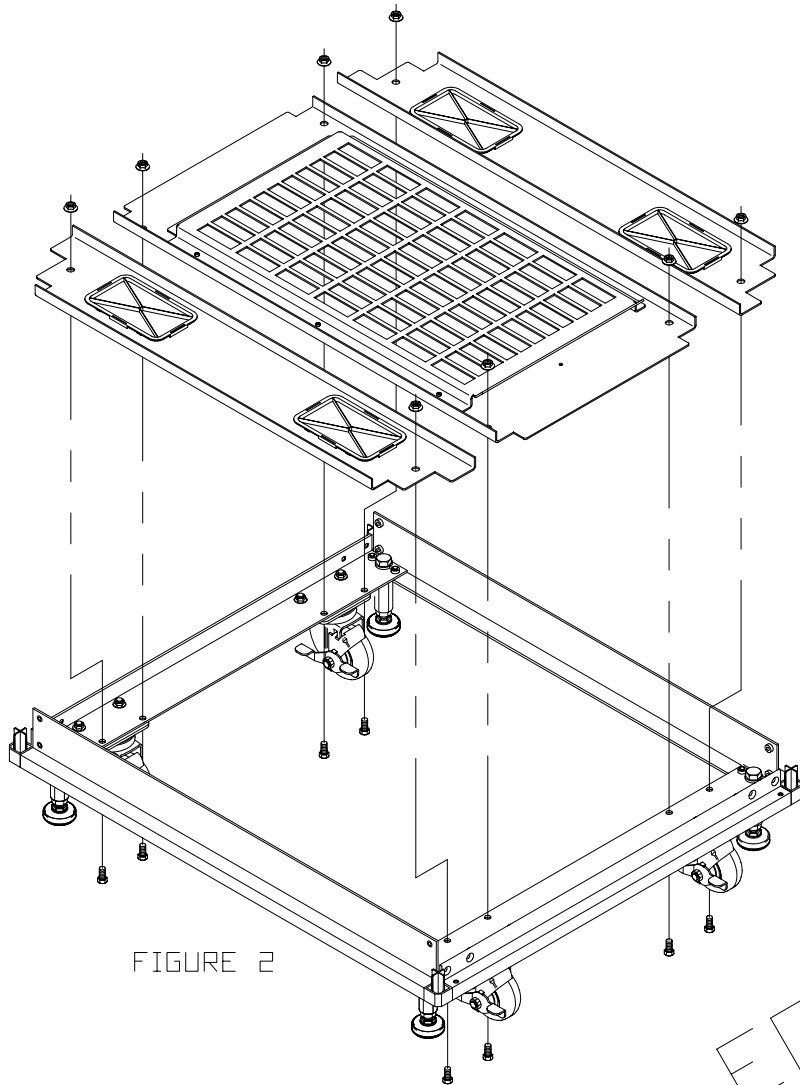

FIGURE 2
5. IF CASTERS ARE INSTALLED, REMOVE EIGHT INSIDE CASTER NUTS AND BOLTS, AS SHOWN IN FIGURE 2.